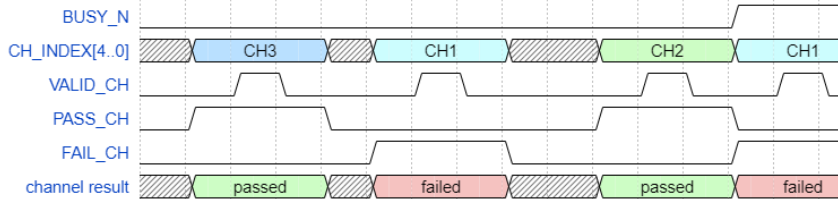

Figure 14: Control Interface: before the overall project end, single channel result is reported when the channel finishes its task - timing diagram (500us/div)
- before the end of the overall project execution, if a single channel finishes its task, the result is reported (figure 14);
- when the last channel terminates its task, the result is reported (figure 14) and the BUSY_N signal goes high (end of project execution);